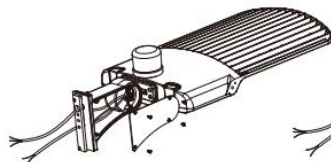
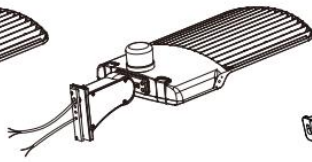

Figure 5
Figure 6
3. DIRECT MOUNTING (DM)
Step 1: Remove the bracket mounting screws on the fixture, open the side lid of bracket and run the wires through the bracket. (Figure 5) Step 2: Install the bracket on the fixture, then cover the side lid and tighten it. (Figure 6)